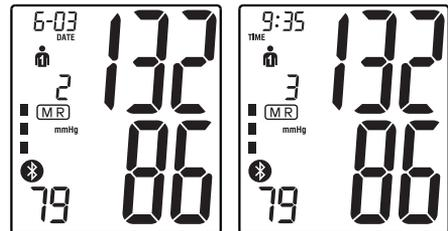

Fig. 5
- After pressing the MEMORY button, the user can view the data from the newest to the oldest, the symbol **MR** with measurement number will appear (FIG. 5).